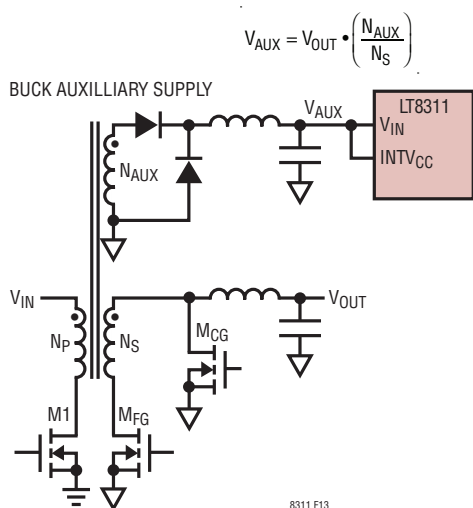

Figure 13. Buck Circuit Generates V_{AUX} Supply, Which Powers LT8311's V_{IN} and INTV_{CC} Pins
3. Use a buck circuit from an auxiliary transformer winding, as shown in Figure 13. This circuit has the benefit of being highly efficient, and is fairly simple to design. It is particularly useful for low output voltage applications (3.3V or 5V) that do not have an external housekeeping supply, and where powering directly from the output voltage is inadequate. In this configuration, the buck circuit's output voltage derives its energy from secondary-side switching pulses that also source energy to the forward converter's main output voltage, V_{OUT} . Careful consideration must be given to ensure that the buck output voltage comes up well in time, and turns on the LT8311 to provide synchronous and opto control before the forward converter's actual output voltage gets close to regulation. If there is a need to speed up